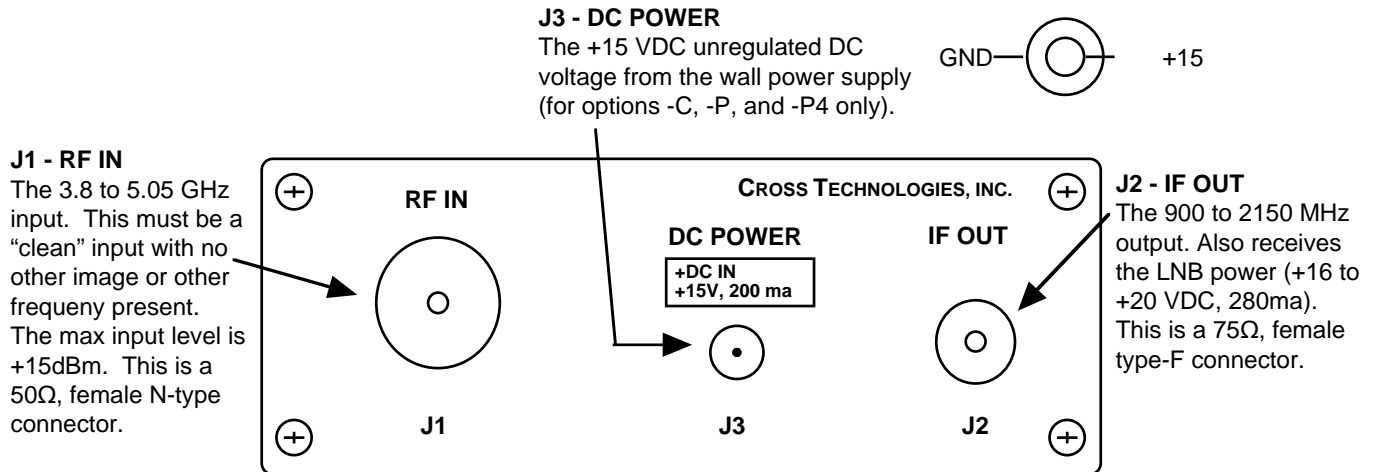

FIGURE 2.3 Model 2009-38 Rear Panel Inputs and Outputs
2.3 Rear Panel Input/Output Signals - Figure 2.3 shows the input and output signals to the 2009-38.
- 1.) Connect the IF OUT to the receiver under test (+16 to +20 VDC, 280 ma power is provided by the LNB voltage from the receiver under test). For **-P** and **-P4** models, connect one end of the Wall Power Supply to the 2009 DC POWER input, J3, and the other end to 115 VAC, 60 Hz (**-P**) or 100-240 ±10% VAC, 47-63 Hz (**-P4**) (Figure 2.3). For **-C** models, connect the DC cable from the 2000-01 power supply to the DC POWER input, J3.
- 2.) Connect a +15 dBm, maximum, signal to RF IN, J1 (Figure 2.3).
- 3.) Connect the IF OUT, J2, to the receiver under test, if you have not already done so (Figure 2.3).